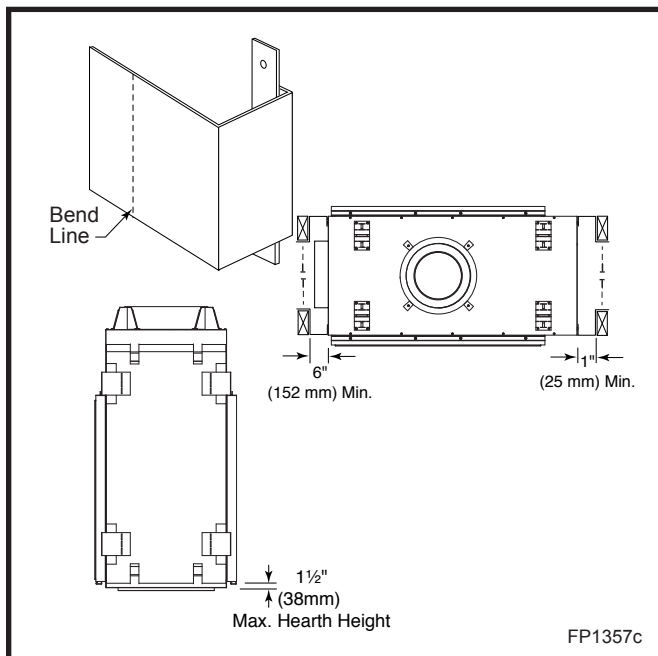

Fig. 4 Nailing flanges.
A hearth is not mandatory but is recommended for aesthetic purposes. We recommend a noncombustible hearth which projects out 12" (305 mm) or more from the front of the fireplace. The hearth cannot exceed 1½" (38 mm) in height from bottom of fireplace for ease of door accessibility. (Fig. 4)
2. The unit is shipped with four (4) nailing flanges mounted near the front corners on the side with the valve box assembly. (Fig. 4)
4. Attach the fireplace nailing flanges to the frame as shown in Figure 4.